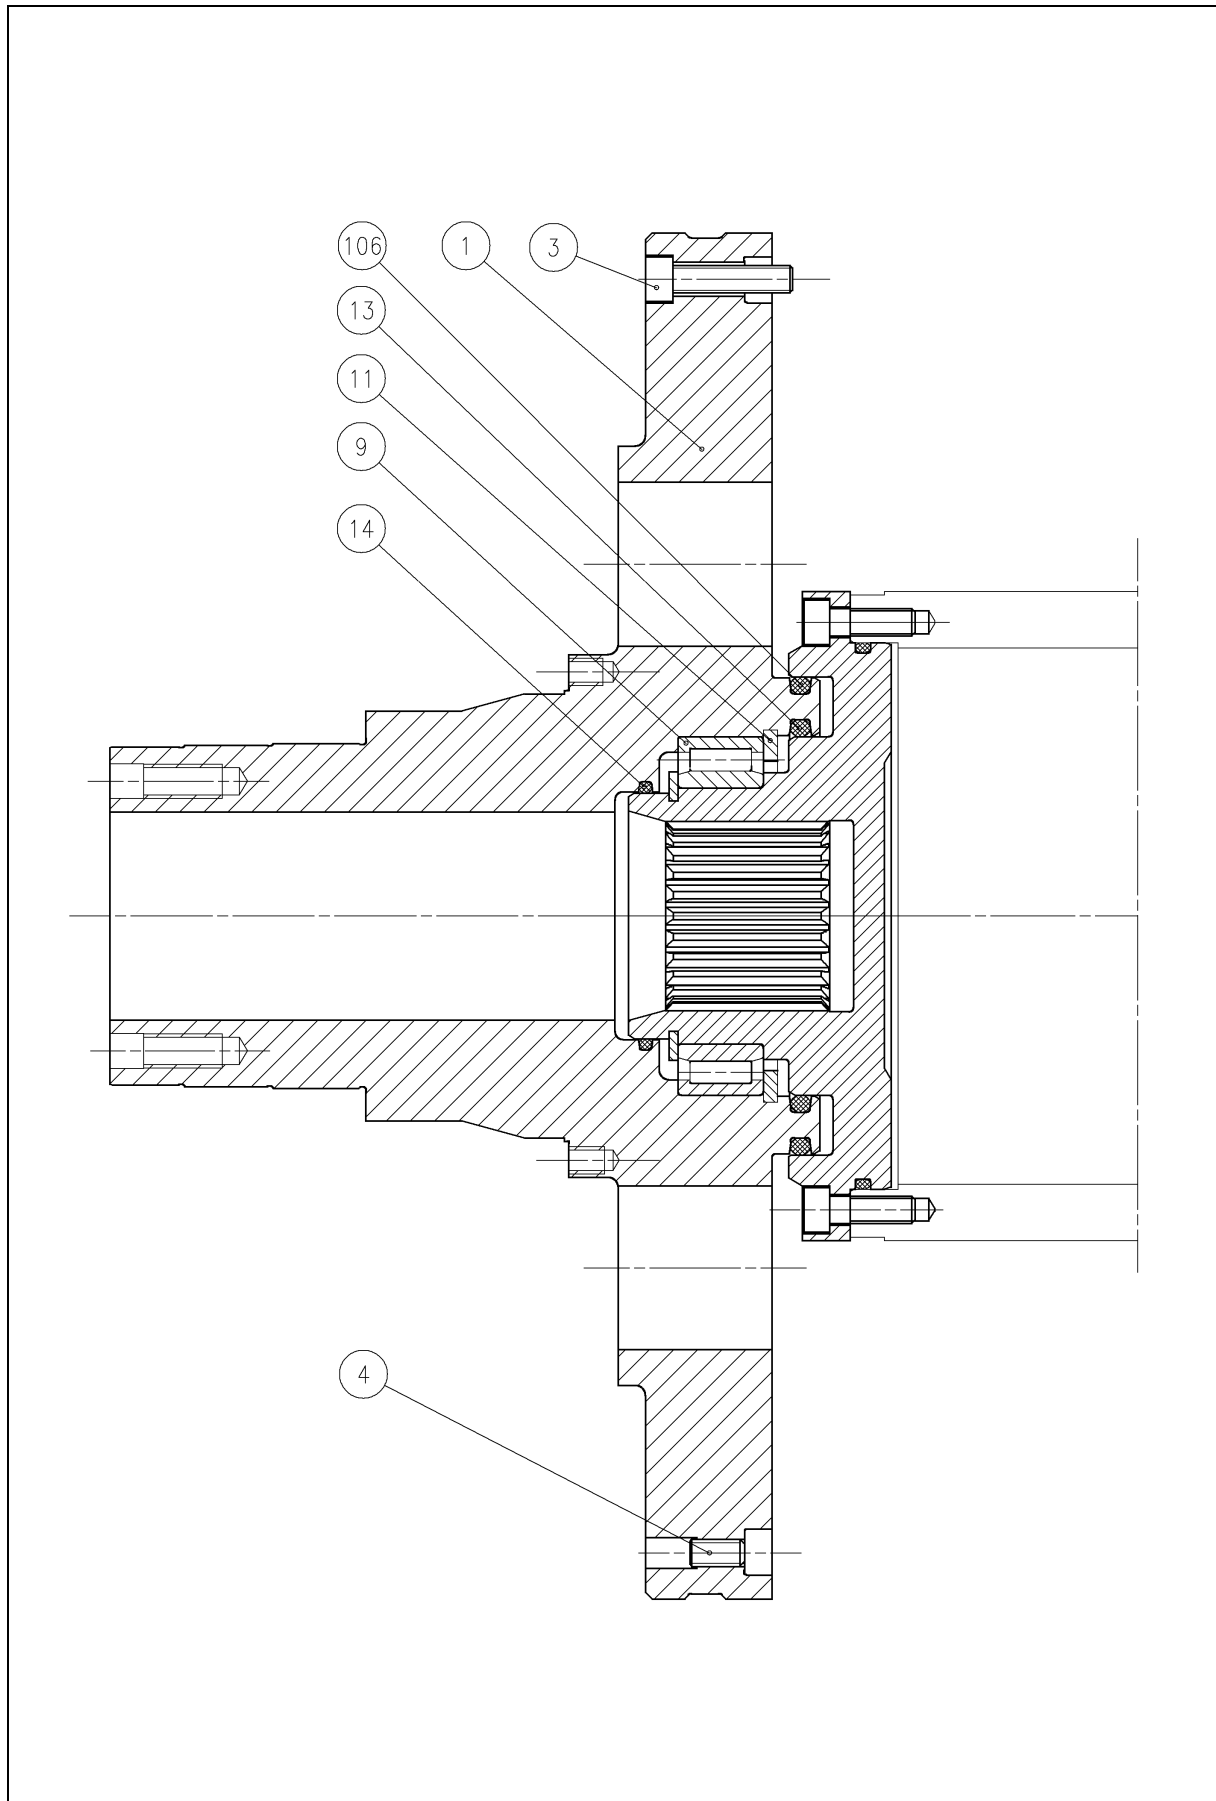

Figure 4.1.4
4.1.3 Remove Large End Hub (Fig. 4.1.4)
4.1.4 Install Large End Hub (Fig. 4.1.4)